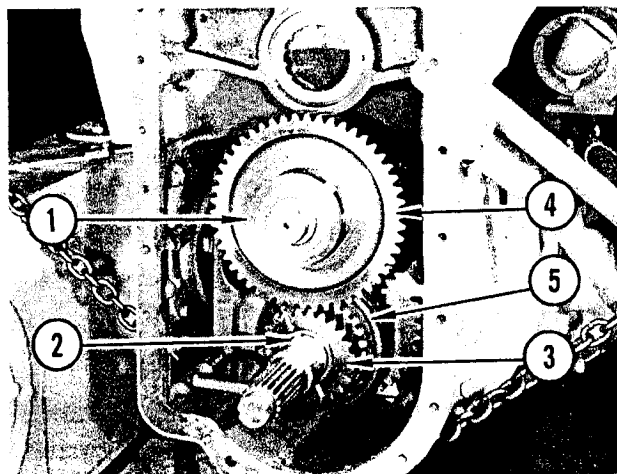

FIGURE 89. LOWER TRANSMISSION
Refer to Figure 89. Remove spacer (1) from upper shaft. Remove lockpin (2) and fourth gear (3) from lower shaft. Remove all speed gear (4) from upper shaft.